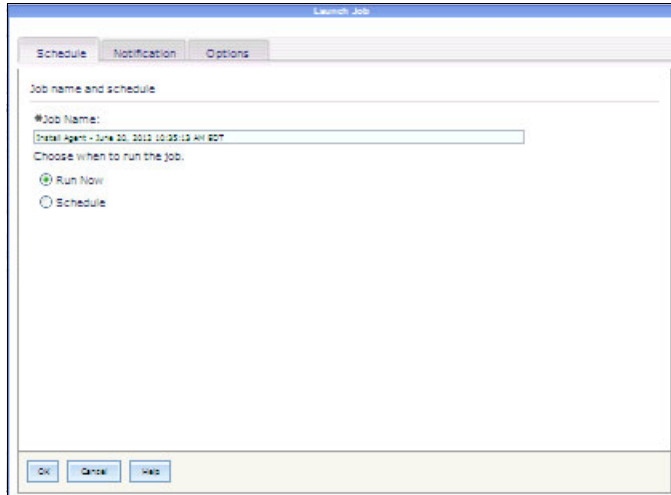

Figure 9-38 Run agent installation job
8. Click **OK** to run the job now as shown in Figure 9-38.